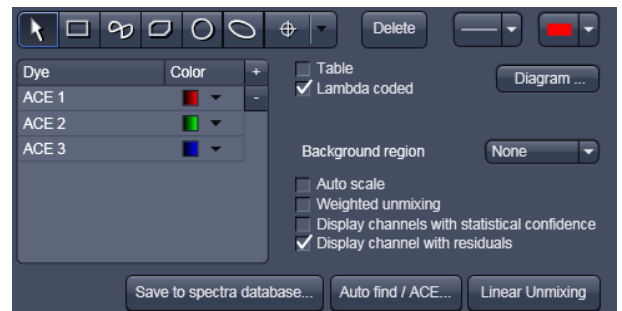

Fig. 692 Automatic Component Extraction function
- Click on the **Auto find / ACE...** button in the Unmixing View Option control tab (Fig. 692).
- When obtained spectra appear reasonable, unmix the data set by clicking the **Linear Unmixing** button (Fig. 692).